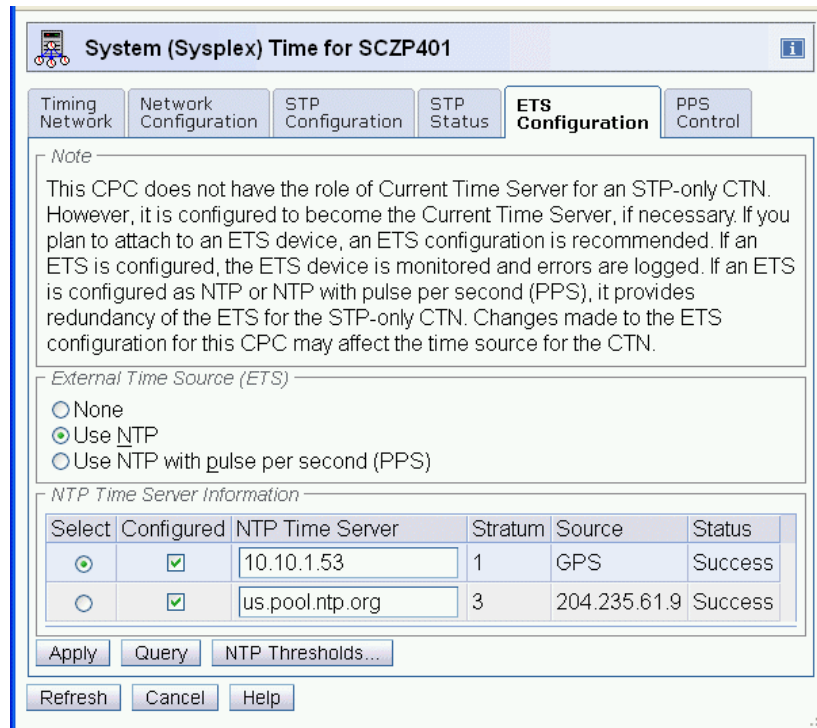

Figure 1-84 NTP server example
9. Define the new NTP server to the Support Element of the Current Time Server. It is suggested to also configure the NTP server to the Support Element of all other servers that can become the CTS. This is typically the BTS, but can be any other server as well. For details refer to 1.2.5, "Configuring an NTP server on the PTS/CTS or BTS" on page 18. The target NTP server configuration can also be a combination of NTP servers such as one HMC acting as NTP server and one Stratum 1 (GPS attached) NTP server as shown in Figure 1-84 on page 50.